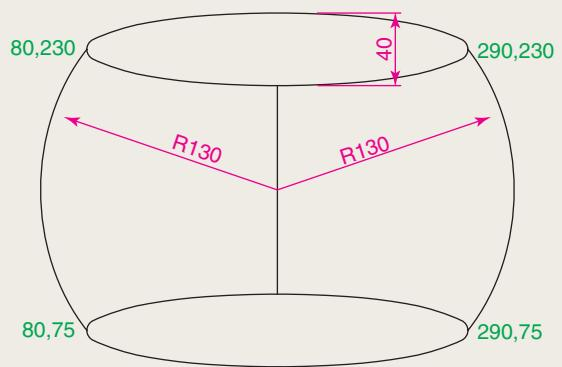

Fig. 3.47 Exercise 3
3. Using the **Ellipse** and **Arc** tools construct the drawing Fig. 3.47.